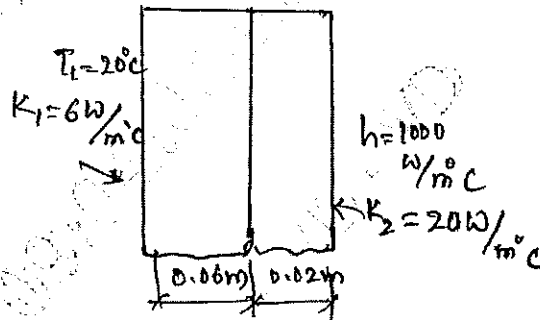

Fig.Q7(b)
- b. Determine the temperature distribution through the composite wall subjected to convection heat loss on the right side surface with convective heat transfer coefficient as shown in Fig.Q7(b). The ambient temperature is  $-5^\circ\text{C}$ .